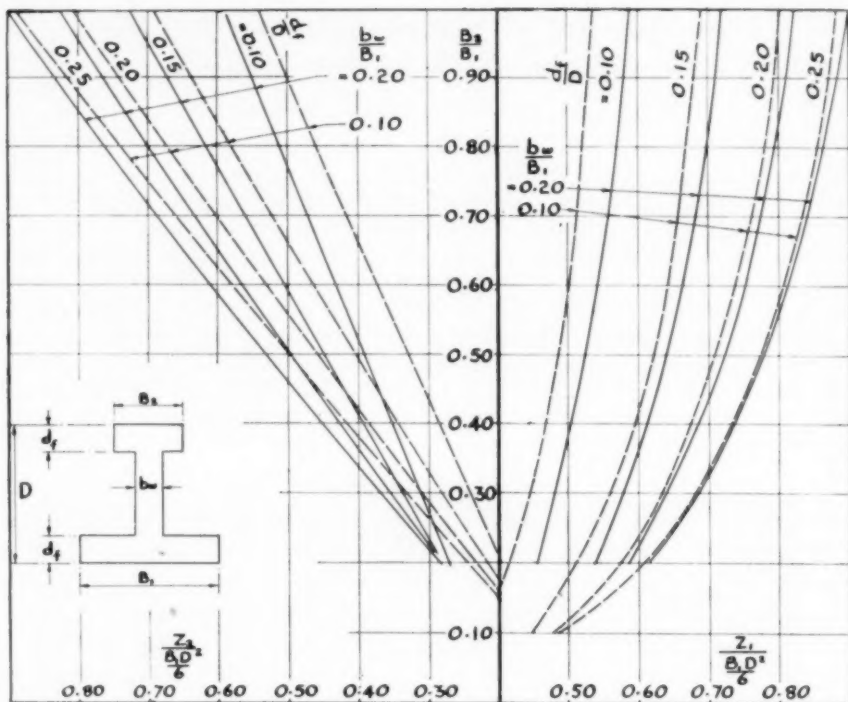

Fig. 1.
Having calculated from (1) the minimum section moduli required, a cross section having these values can be designed fairly accurately at the first attempt by using the chart in Fig. 1, which gives the ratios of  $Z_1$  and  $Z_2$  to the section modulus of the circumscribing rectangle for unsymmetrical sections of various proportions. The section selected will generally have values of  $Z_1$  and  $Z_2$  slightly greater than the minima, and the prestress  $f_{1t}$  and  $f_{2t}$  at the bottom and top of the beam at the time the compression is transmitted to the concrete must be between the limits